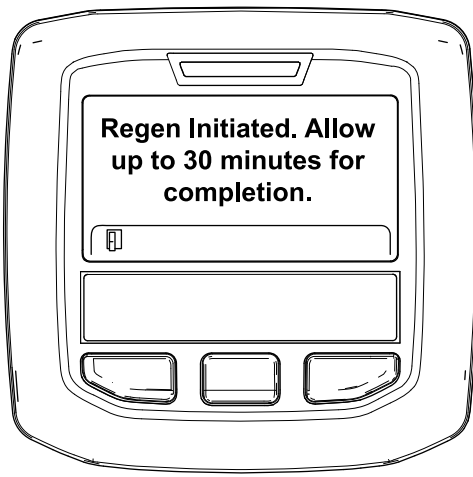

Figure 33
- If the regeneration is allowed, the "Regen Initiated. Allow up to 30 minutes for completion" message displays in the InfoCenter, wait for the machine to complete the parked regeneration process (Figure 33).